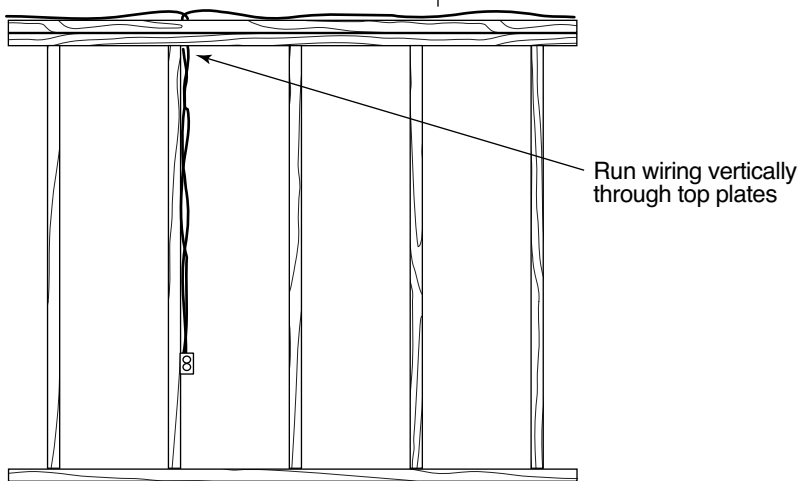

FIGURE 68
- ◆ Do not drill holes in PWF walls for electrical wiring. Where outlets are required, run wiring vertically in stud spaces and drill through the top plate, instead of drilling through wall studs (see Figure 68).